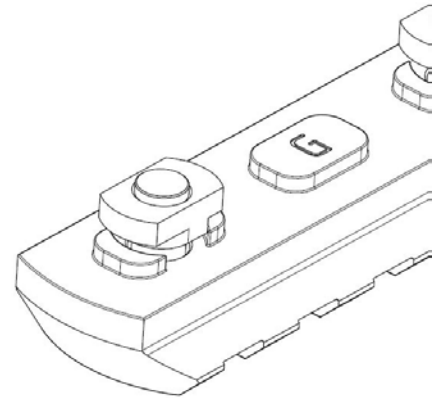

Figure 1 M-Lok with one full thread showing.
1. To install make sure the nut is started onto the bolt with at least 1 full thread showing out the back of the nut (Figure 1.). If one full thread is not showing, there is a chance that the M-LOK nut will not cam into the M-LOK slot properly. If this occurs and the screw is tightened, the M-LOK nut can pull through the rail leaving a gash in the rail and causing a burr in the surface.